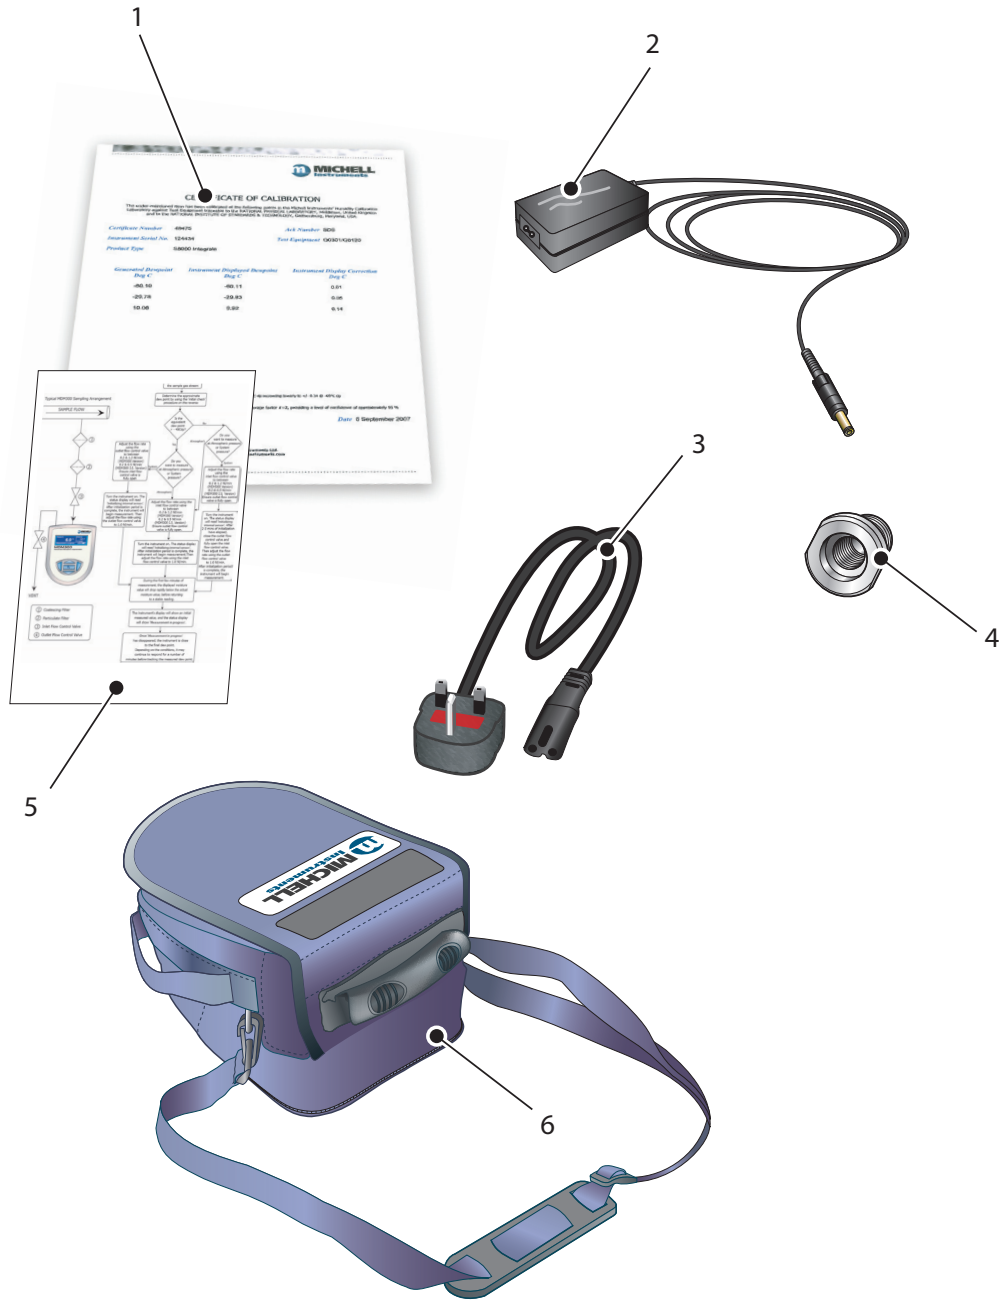

Figure 6 Accessories
The accessories for the MDM300 are shown in *Figure 6*. Items 1...6 are supplied as standard and item 6 is optional. Please check that all the standard components are present after unpacking. Report any shortages immediately.